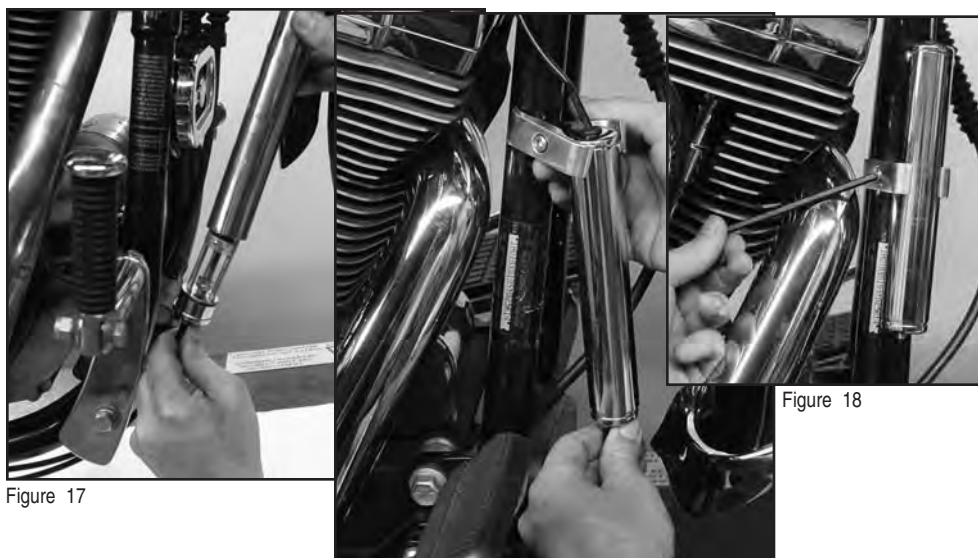

Figure 17
6. Install Actuator Cover. If necessary use a small amount of lubricant on "O" ring. **Figure 17.**